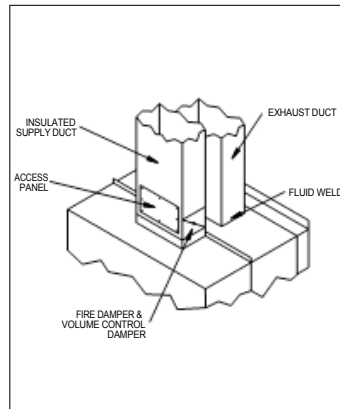

FIGURE 4
- Provide a removable service door in supply duct near damper (See Fig. 4).